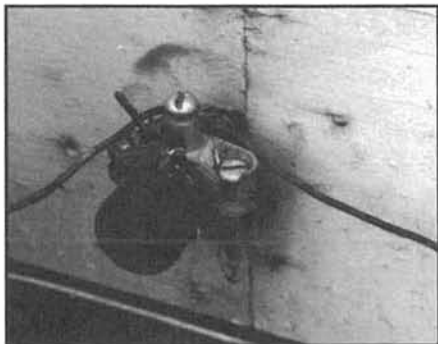

Figure 12.5—Inspect water-pipe grounds to be sure that the connections are tight and clean of corrosion.
The antenna or ground system may be at fault. Significant broadcast-frequency currents flow in low-band antennas and towers. In unbalanced systems, broadcast currents are shunted to ground by radials and water-pipe connections (Figure 12.5). To test: (1) Take an interference reading on a portable receiver some distance from the suspect antenna. (2) Interrupt the possible shunt paths, and (3) take a second reading. When the interference is generated in the antenna/ground system, the second reading is much lower than the first.